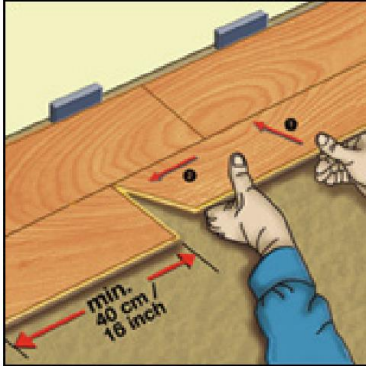

FIG. 1
- iii. Install the long edge of the plank to the previous row (FIG. 1).